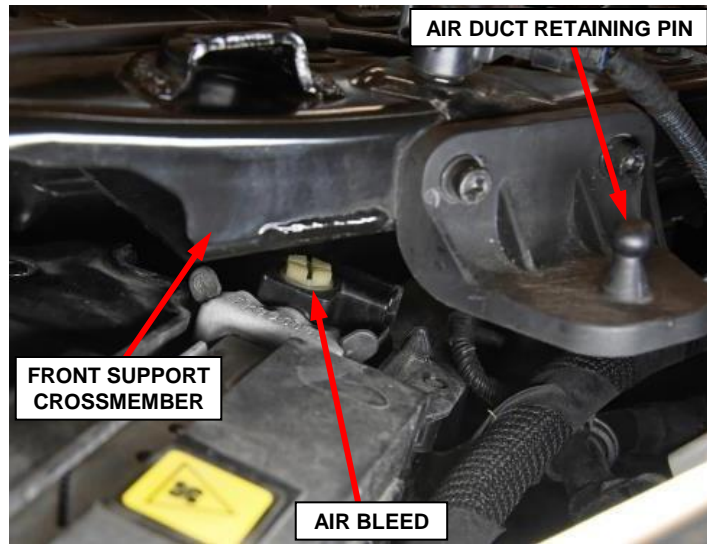

Figure 14 – High Temperature Primary Radiator Air Bleed
- Loosen the high temperature primary radiator air bleed to assist with coolant draining (Figure 14).